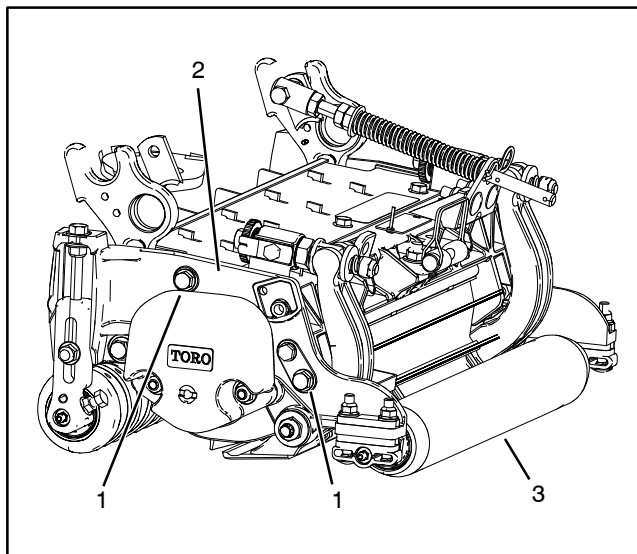

Figure 21
4. Loosen, but do not remove, shoulder bolts that secure the side plate to the frame opposite the side that is not level (Fig. 21).